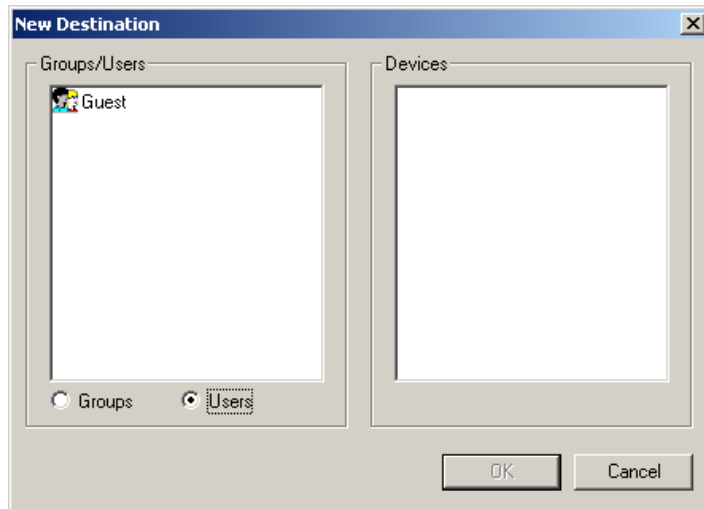

Figure 117. New Destination Dialog Box (Users Selected)
- Click **New** to create a new destination. The New Destination dialog box as shown in Figure 117 appears.